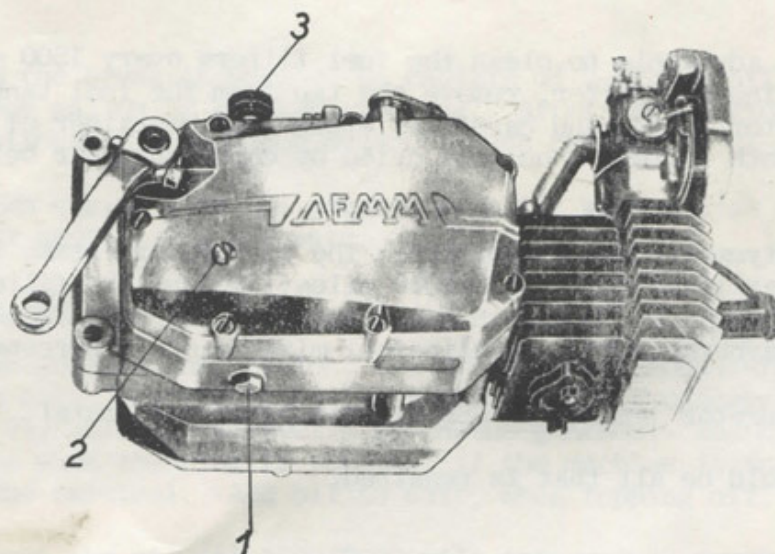

Fig. 4
For the gearbox lubrication, use a high grade nondetergent SAE 40 lubricating oil. Check the oil level frequently by unscrewing the screw (2) (fig. 4), which is a level plug on the gearbox. The oil should be just visible when the plug is removed, if the machine is inclined slightly from the vertical. Add oil to suit, when topping off.
To change the oil (at 1500/2000 mile intervals), remove the drain plug (1) (fig. 4), and fill to the level plug hole through plug (3) (fig. 4). It is advisable when draining the oil, that the engine be HOT.